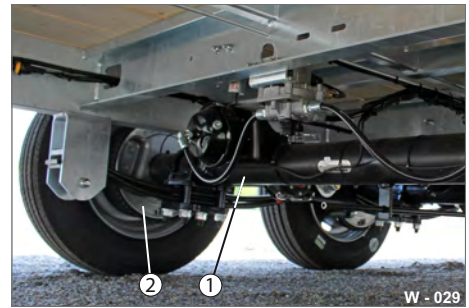

Fig. 29 Putting lifting device into position
- ▶ Position the lifting device as far outside as possible, in the lifting device area (Fig. 29/2) under the axle tube (Fig. 29/1).